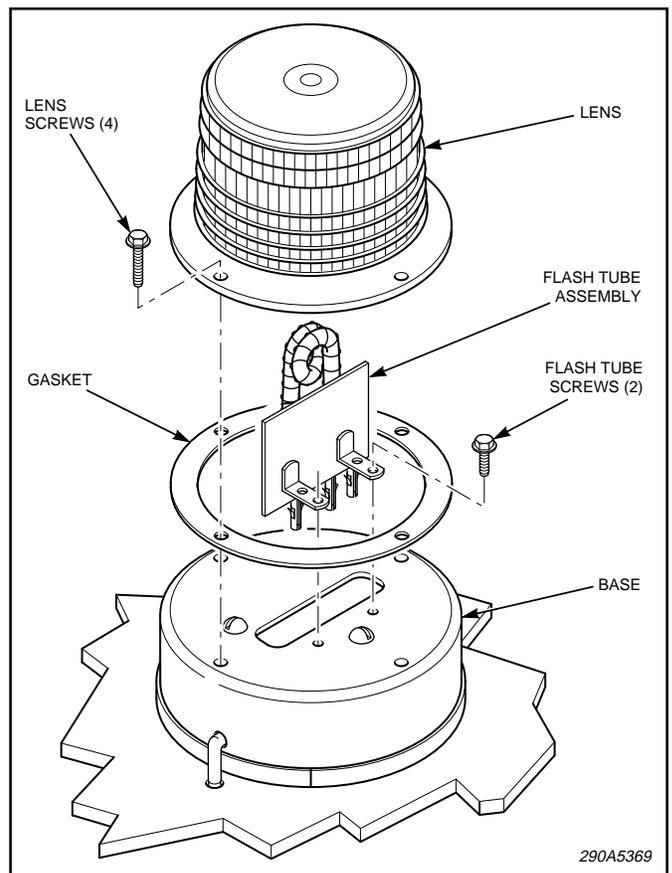

Figure 1.
D. Grasp the flash tube by its printed circuit board and pull it off of the pins, using a gentle "rocking" motion. See figure 1. Install a new flash tube. Secure the flash tube assembly to the base using the previously removed screw. Ensure that the O-ring seal rests flat on the base (see figure 2) and reassemble the light.